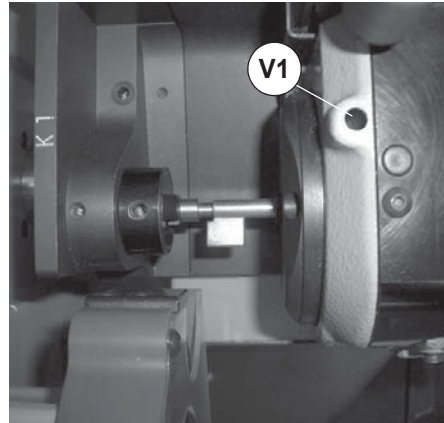

Fig. 86
- 5) Fit the key blank into the front side of the rotating clamp (S1) and position it on the groove in the jaws, then take the key forward until the adapter E15 goes into the hole in the stem (fig. 86).